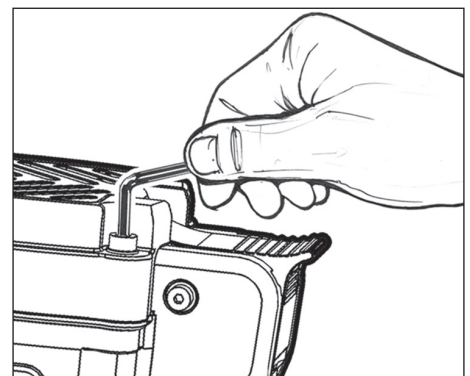

Figure 3
3. Remove the cap and air filter. Unscrew the four socket head cap screws (see Figure 3).